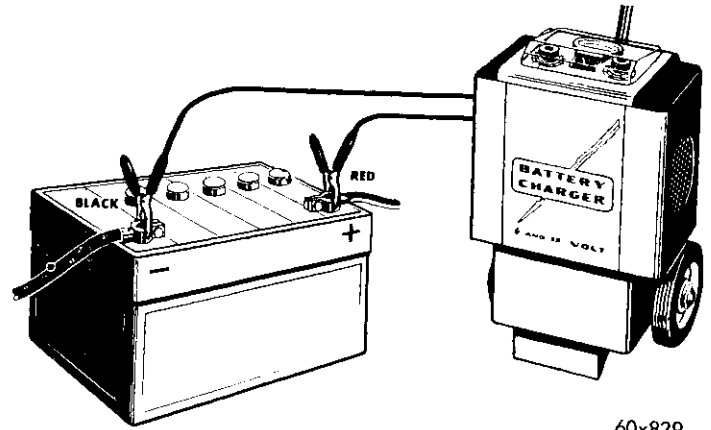

Fig. 5—Fast Charging the Battery
**b. Fast Charging the Battery (Fig. 5)**